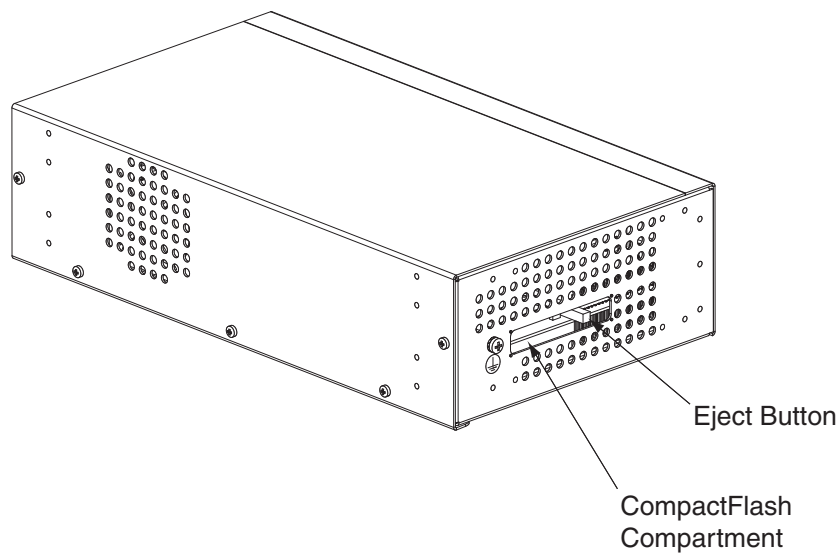

Figure 3-6. CompactFlash Memory Card Compartment
2. Locate the CF compartment (see Figure 3-6).